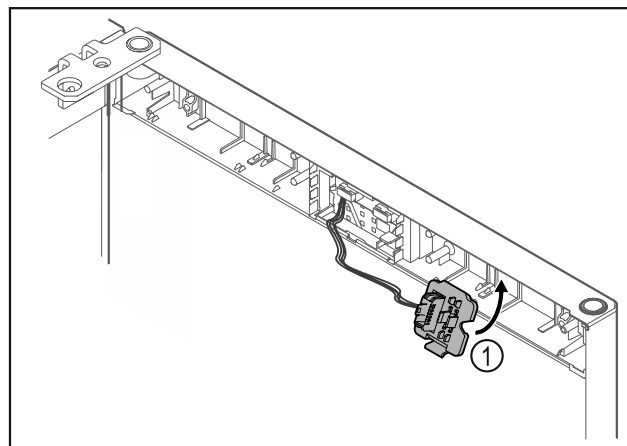

Fig. 13
- Engage the plug holder Fig. 13 (1) on the opposite side.*